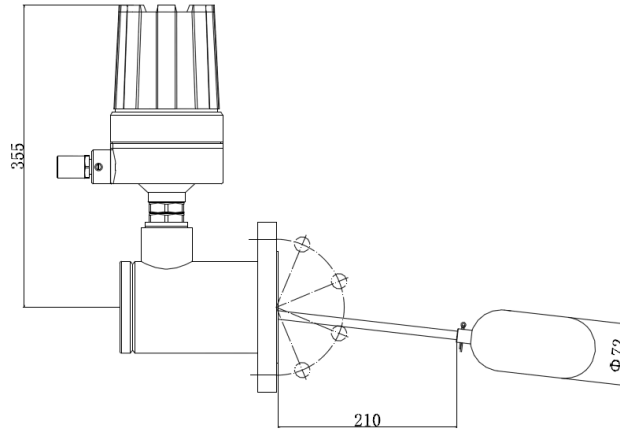

Figure 2
2.2 Operating Principle –Figure2
4. Dimensional Schematic -Figure 2